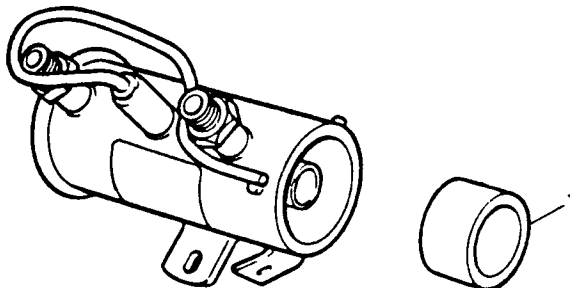

Fig C5.20
- (5) Refer to Fig C5.20. Replace the filter (1).